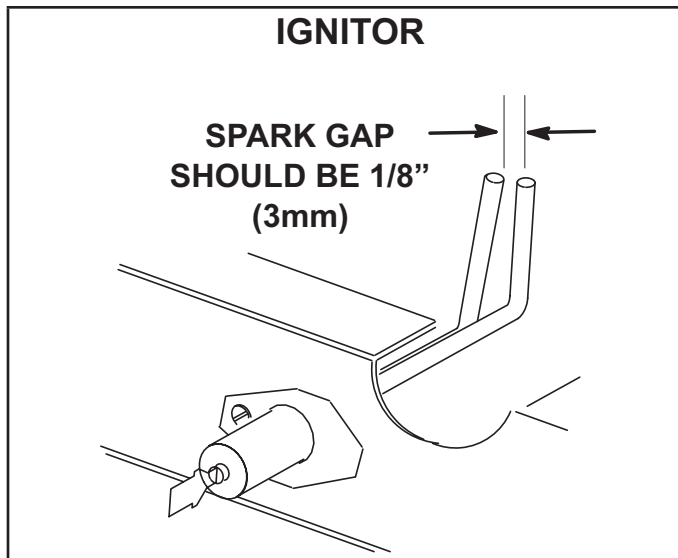

FIGURE 19
- 5 - Locate the ignitor under the right burner. Check ignitor spark gap with appropriately sized twist drills or feeler gauges. See figure 19.